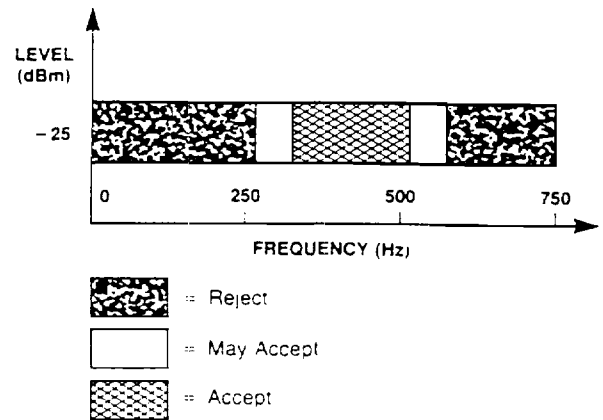

Figure 6. Call Progress Response
A Call Progress (CP) Mode can be selected allowing the detection of various tones which identify the progress of a telephone call on the network. The Call Progress tone input and DTMF input are common, however, call progress tones can only be detected when the CP Mode has been selected. DTMF signals cannot be detected if the CP Mode has been selected (see Table 5). Figure 6 indicates the useful detect bandwidth of the Call Progress filter. Frequencies presented to the input (IN+ and IN-) which are within the 'accept' bandwidth limits of the filter are hard-limited by a high-gain comparator with the $\overline{\text{TRQ}}/\text{CP}$ pin serving as the output. The square wave output obtained from the schmitt trigger can be analyzed by a microprocessor or counter arrangement to determine the nature of the Call Progress tone being detected. Frequencies which are in the 'reject' area will not be detected, and consequently there will be no activity on $\overline{\text{TRQ}}/\text{CP}$ as a result of these frequencies.